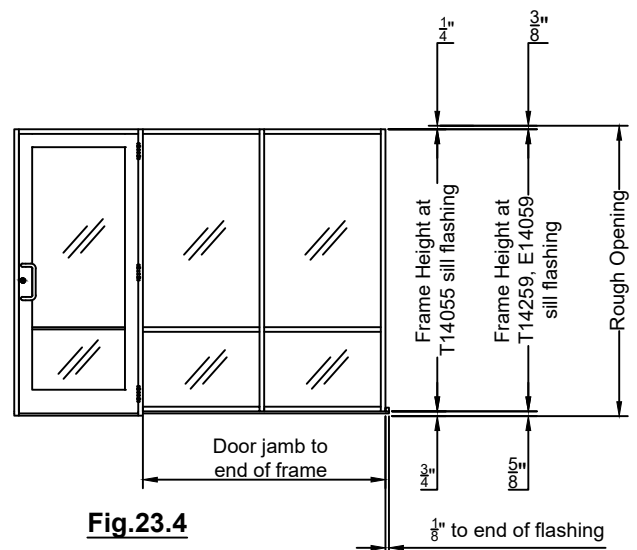

Fig.23.4
- Sill Flashing with Entrance. Door Jamb to End of Frame + $\frac{1}{8}$ " (SEE Fig. 23.4)
- Verticals..... See Fig. 23.4
- Closure Pockets at Verticals..... See Fig. 23.4